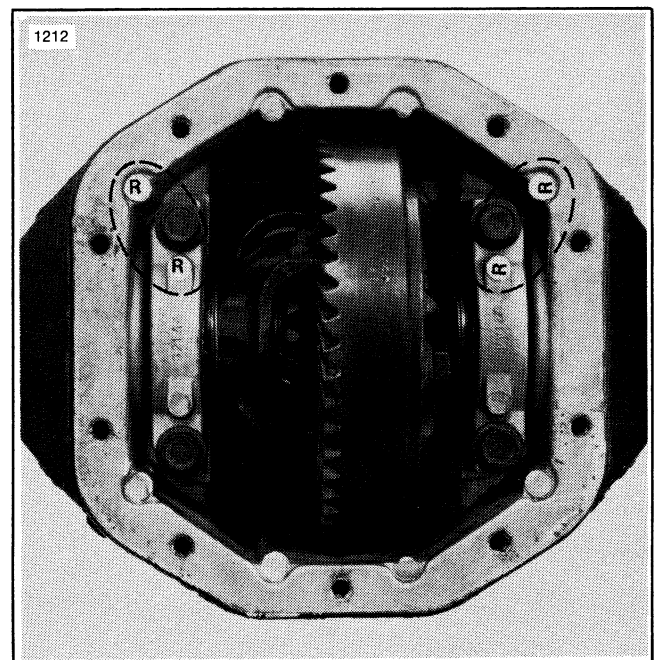

Figure 3-12. Bearing Cap Identification
7. Remove differential bearing cap bolts (4). Bearing caps are marked for location identification along with the carrier (Figure 3-12). When reassembling, the caps must be installed in their original position. Remove bearing caps (5).